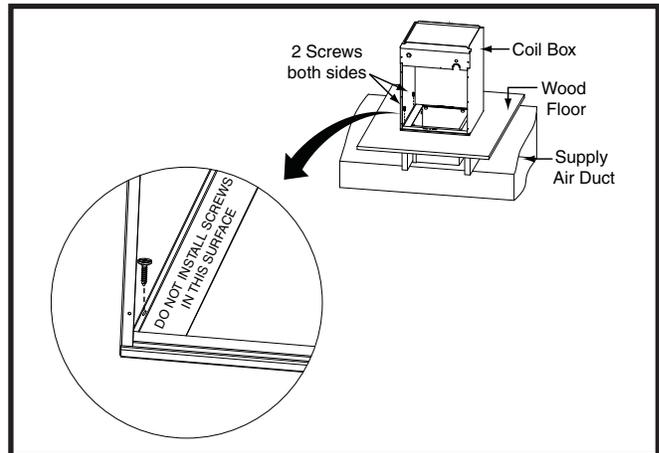

Figure 18. A/C Coil Box Installation
- b. Secure the A/C coil box to the connector assembly and wood floor with appropriate size screws at all four corners. **NOTE:** To minimize damage to coil box, see Figure 18 for appropriate screw locations.